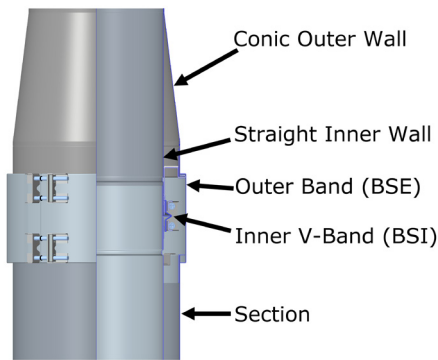

Figure 67- Exit Cone (EC) installed
The Finishing Cone (FC) is a single wall construction (for Model SCL) or a Double wall construction (for Models CAX1, CIX1, CIX2 and CIX4), where the inner wall is straight, but the outer wall is a cone. It attaches with a standard Inner V-Band (BSI) and Outer Band (BSE) (See JOINT ASSEMBLY Section) to the uppermost chimney pipe section. To prevent rain from reaching an appliance this installation requires use of a Drain Length (DL) in a vertical run or a Drain Tee Cap (DTC) at the end of a vertical chimney. See Figure 67.